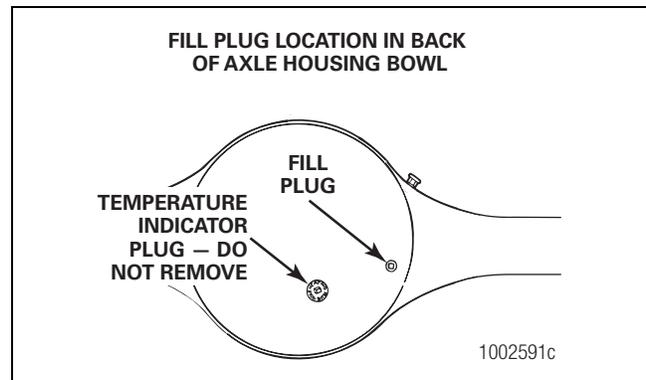

Figure 5.122
2. Remove the fill plug from the side of the bowl cover of the axle housing. Figure 5.122.